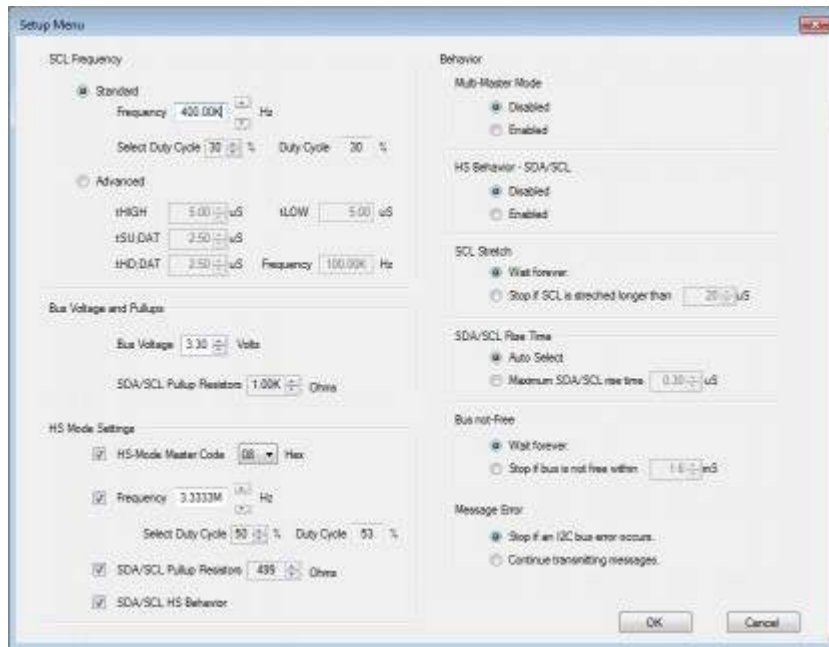

Figure 5. Setup Menu
- The Setup menu is now displayed (See Figure 5)